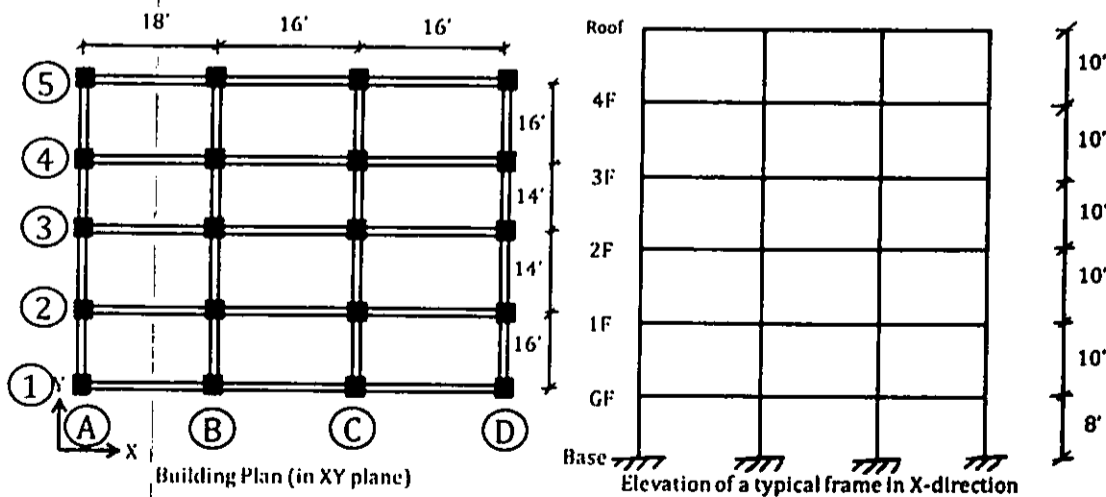

Figure 7.
7. A 5-storied RC residential building (enclosed building, occupancy category II) located in Chittagong (exposure 'A') has plan dimensions of 50 feet \times 60 feet as shown in Figure 7. The typical floor height of the building is 10 feet and column bases are located 8 feet below ground level. Determine the wind force distribution (in 'kip' unit) along the height of the building for the frame along gridline B-1-2-3-4-5. Use the analytical procedure for main wind force resisting system (BNBC 2020), considering negative internal pressure. Given, gust factor = 0.85, directionality factor = 0.85, topographic factor = 1. Conversion factors, 1 kip = 4.45 kN, 1 kN/m² = 20.88 psf, 1 meter = 3.28 ft. (see the attached tables)